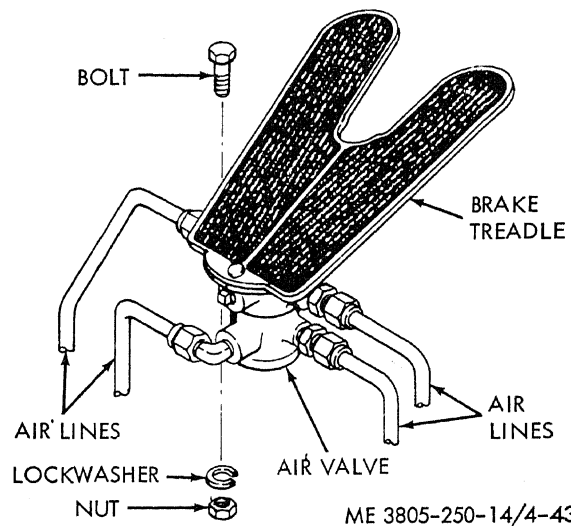

Figure 4-43. Brake air valve, removal and installation.
- (1) Block the wheels or apply the parking brake.
- (2) Open the drain cock on the main air reservoir.
- (3) Clean the air valve and surrounding area to remove dirt and grease.
- (4) Disconnect air lines from the valve (fig. 4-43). Cap or plug ports and fittings to prevent entry of dirt.
- (5) Remove three bolts, washers and lock-washers securing the valve to the cab floor, and remove from loader.